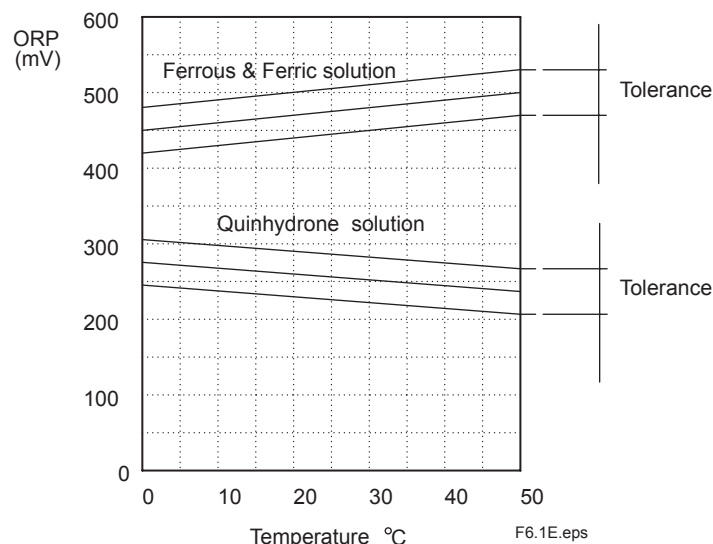

Fig. 11-3 ORP of Test Solution
To determine whether the ORP electrode is normal or not, a solution of known ORP is measured to check if the measured value is within tolerance (see Fig. 11-3). This is done in measurement mode.
(2) Transfer about 50-100 ml of test solution to a clean 200 ml beaker.
(3) Remove the ORP sensor from its holder. If an immersion holder is used, first remove the holder then remove the (sensor) protector from the holder.
(4) Wash off any of the measured solution adhering to the sensor using tap water, then wipe off any moisture droplets adhering to the sensor.
(5) Immerse the sensor tip in the test liquid (see (2.) above), wait for the ORP reading to stabilize (this typically takes 5 to 10 minutes).
(6) After the display reading has stabilized, read and note it. Measure the temperature of the test solution, and check the ORP of the test solution at that temperature using Fig. 11-3.
If the ORP reading is within the tolerance shown in Fig. 11-3 then the sensor is normal.